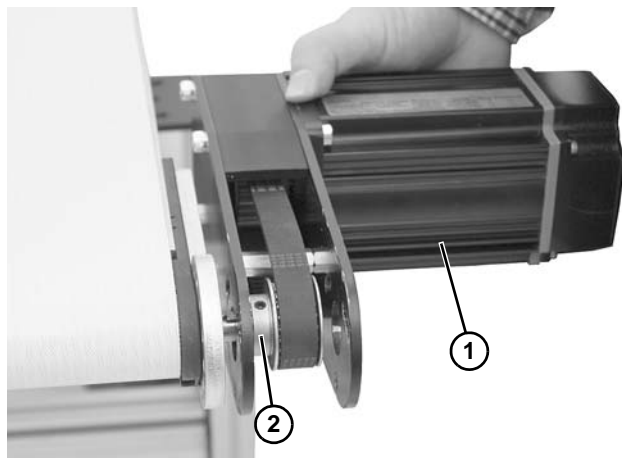

Figure 23
6. Slide drive package (**Figure 23, item 1**) and driven pulley (**Figure 23, item 2**) off output shaft.